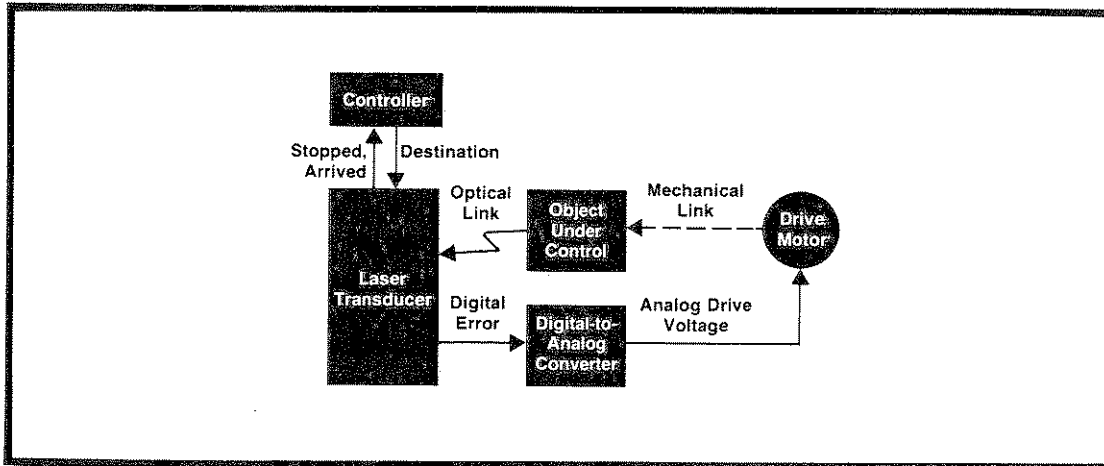

Figure 3-4. Comparator-Based (Closed-Loop) System Simplified Block Diagram
3.7 COMPARATOR-BASED (CLOSED-LOOP) SYSTEMS. A special case of laser transducer applications occurs in certain comparator-based (closed-loop) systems, such as that shown in Figure 3-4. The system controller sends the laser transducer system a digital representation of the destination of the object under control. The transducer system then takes over the task of measuring the object's position on a real-time basis, comparing it with the desired position, controlling the drive motor, and indicating when the object under control has arrived at its destination.